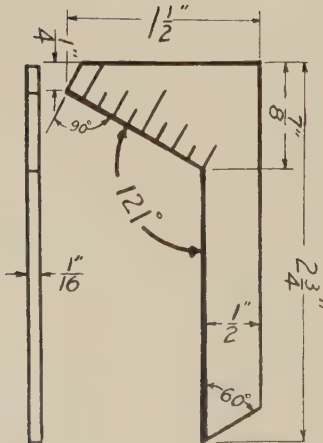
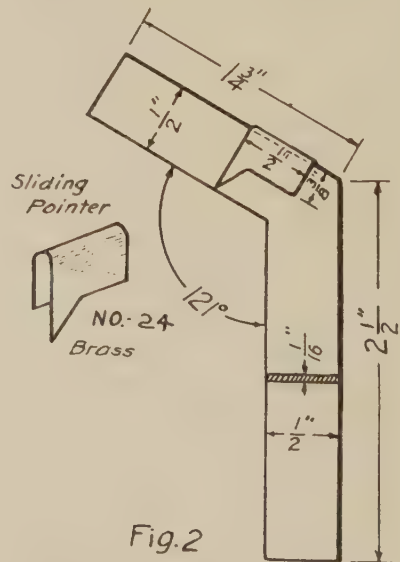

Fig. 1
Fig. 2
Materials Required: For Figure 1, $\frac{1}{16}$ by $1\frac{1}{2}$ by $2\frac{3}{4}$ -in. machine steel; for Figure 2, $\frac{1}{16}$ by 2 by $3\frac{3}{4}$ -in. machine steel; 1 piece No. 24 sheet brass, $\frac{9}{16}$ by 1 in.
10. Polish the gauge with oil and emery to a perfect finish (Fig. 2).
11. In making the gauge shown in Figure 2, follow the directions given for Figure 1.